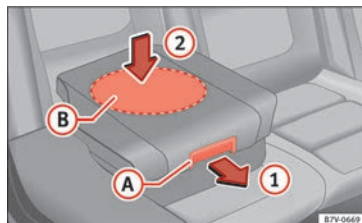

Fig. 96 Integrated child seats. lowering the cushion
- Pull the unlock lever » **Fig. 96** **A** on the cushion in the direction of the arrow **1**.
- Push the cushion down through the central area **Ⓑ** in the direction of the arrow **②** until it safely engages **»»** **Ⓐ**. The side supports fold away automatically.
When lowering the integrated child seat, only press on the centre of the cushion **»» Fig. 96 **②**. Otherwise the cushion could bend and not engage properly.**